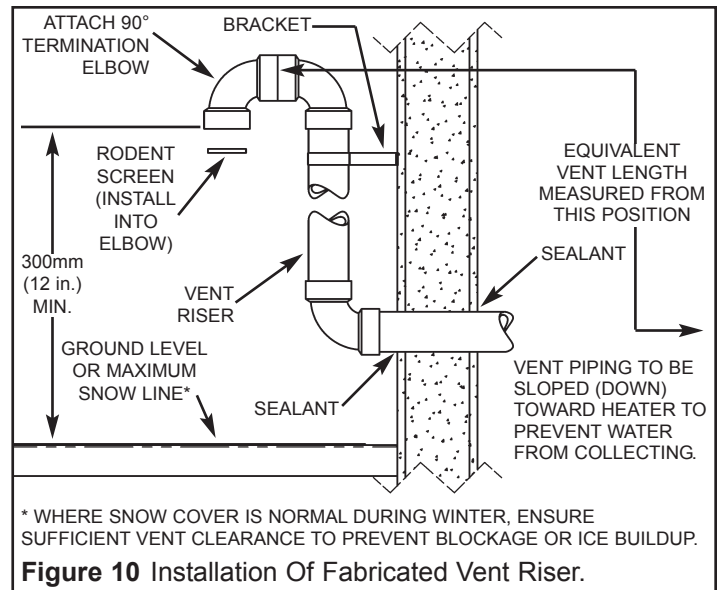

**Figure 8** General Venting Layout
This heater is designed to exhaust the products of combustion (flue gases) to the outdoors using a sealed piping system. Table 2 lists the allowable vent materials and sizing information. Figure 8 shows the general venting layout while Figures 9-12 show various end termination details and clearances. Connection of the venting piping to the blower is shown in Figure 14.
- Refer to Figure 8 and Table 2 for vent pipe materials and sizing and Figure 11 for vent termination clearances. Examples of the vent terminations are shown in Figures 9 and 10. If the installation requires a vent riser, suitable drainage must be provided to ensure condensation does not accumulate. Termination through a roof is shown Figure 12.
- The screen is required to keep foreign objects, rodents and small birds from entering the venting system and only one (1) screen is to be installed in the termination elbow. These screens have been sized to ensure maximum energy efficiency of the venting system based on the "equivalent length" of the vent piping. How to determine the equivalent length is shown in Figure 8. The appropriate screen is to be installed into the end of the termination elbow and secured with a small amount of silicone sealant. This will allow for easy removal for inspection and cleaning.
6. Calculate "Equivalent Vent Length" before starting. Do not exceed the values shown in Table 2. An example of how this length is determined is shown in Figure 8. The value from your calculations should also be used to determine which rodent screen to install into the vent termination elbow.